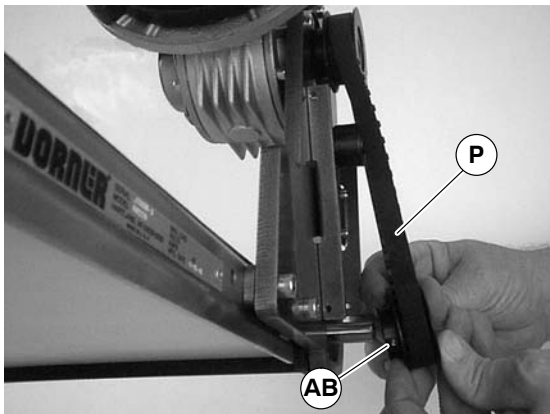

Figure 20
3. Remove timing belt (P of Figure 20).
NOTE: If timing belt does not slide over pulley flange, loosen driven pulley set screws (AB of Figure 20) and remove pulley with belt (P). For re-installation, see steps 8 and 9 beginning on page 10.